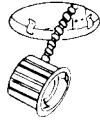

FIG. 1
A. FRAME-IN (FIG. 1)
Push OPTICAL SECTION straight up into MOUNTING FRAME until tight against finished ceiling. RETAINING SPRINGS on MOUNTING FRAME (Fig. 1) will secure OPTICAL SECTION (reflector or baffle) in place.